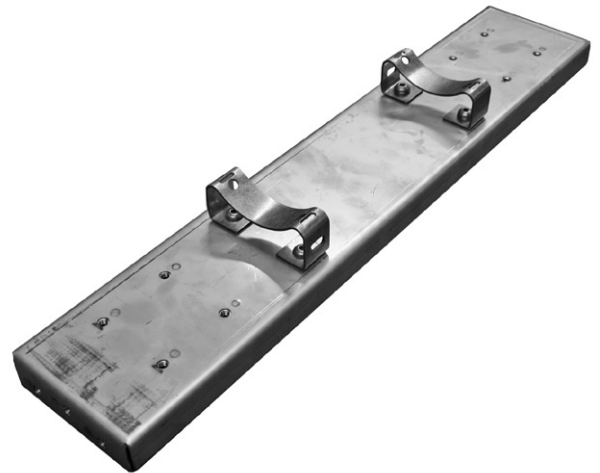

Figure 4. Base bracket placement on standard channel base
1. Site the base brackets (Item 3) to the base (Item 1 or 2) for placement. See Figures 4 and 5.